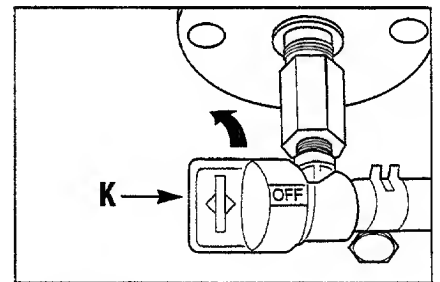

Figure 3-7
The shut-off valve (K, Fig. 3-7) is located under the fuel tank. The valve must be in the ON position (1/4 turn counterclockwise) to operate the engine. Close the shut-off valve when the tiller is transported or not in operation to prevent fuel leakage.
5. The fuel tank shutoff valve must be in the OPEN position (see Figure 3-7, Page 23).